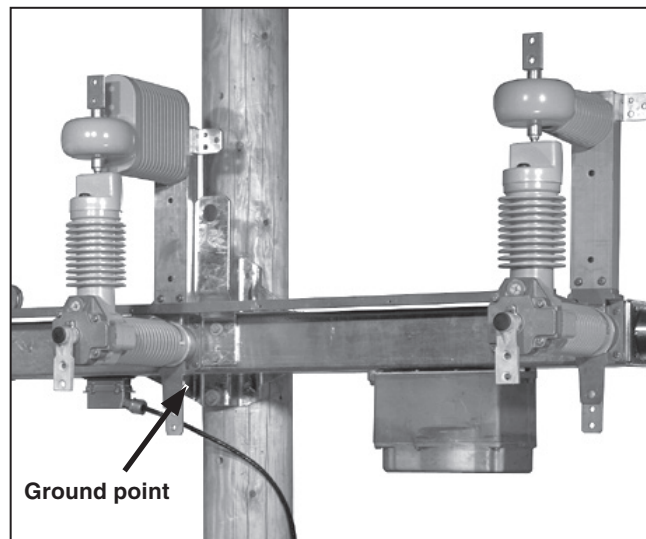

Figure 8. Grounding the switch (vertical mounting configuration shown).
STEP 5. Ground the switch by solidly connecting the end of a number 2 AWG copper wire (or two number 6 AWG copper wires or copper wires having an equivalent cross-sectional area) to the grounding point on the switch mounting bracket. See Figure 8. Grounding lug is to be provided by others. Connect the other ends of the wires to a suitable earth ground at the base of the pole and bond them to the system neutral, if present. Proper precautions must be taken to ensure the local earth ground cannot be severed or removed.